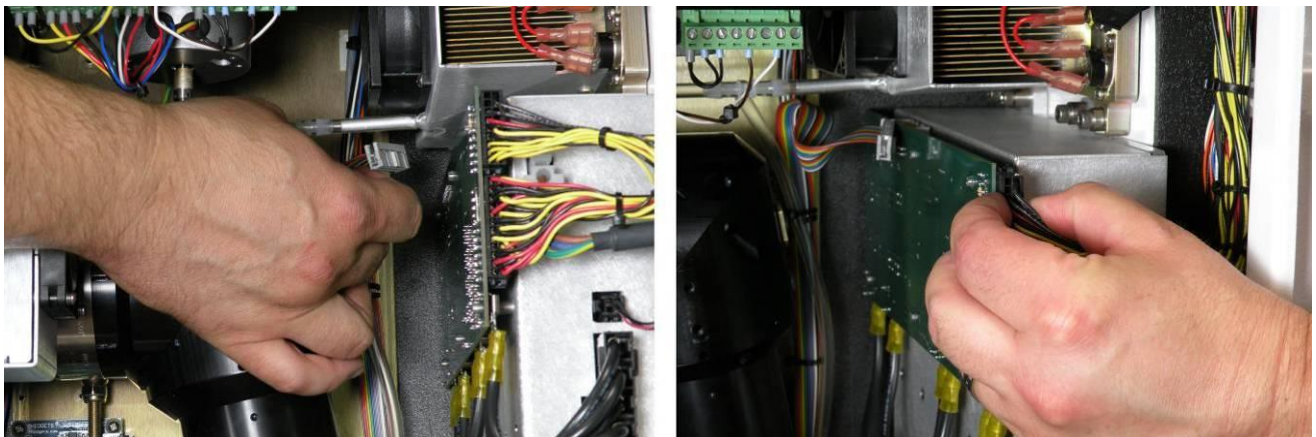

Figure 123. Remove connectors from circuit board
4. Remove the connectors from the circuit board (Figure 123).